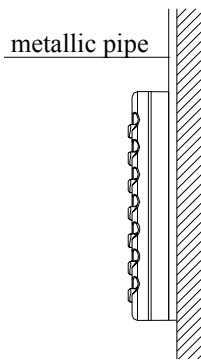
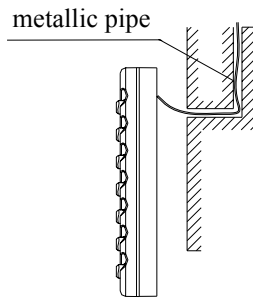

Figure 43 Surface Mounting of Cable
Figure 44 Concealed mounting of Cable
3. If the control wire between the wire controller and the indoor unit is surface-mounted, use 1# metallic pipe and make matching recess in the wall (refer to Figure 43; If concealed installation is adopted, 1# metallic pipe can be used (Refer to Figure 44).